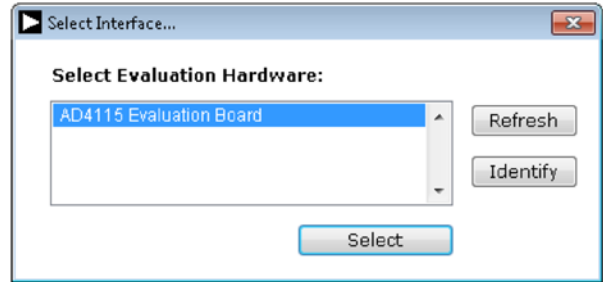
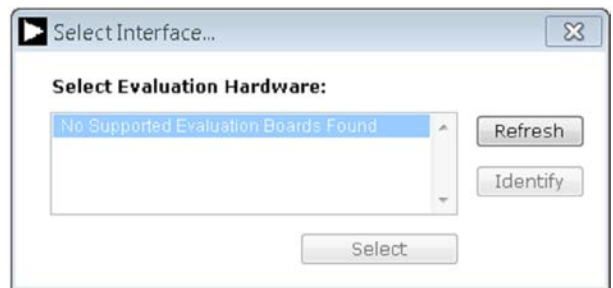

Figure 13. AD4115 Evaluation Board Selection
Figure 14. Evaluation Board Selection, No Board Connected
1. From the **Start** menu, click **Programs > Analog Devices > AD411x Eval+ > AD411x Eval+.exe**. The dialog box shown in Figure 13 appears. Select **AD4115 Evaluation Board** and the main window of the software shown in Figure 16 appears.
2. If the EVAL-AD4115SDZ is not connected to the USB port via the **SDP** when the software is launched, the software displays the dialog box shown in Figure 14. Connect the EVAL-AD4115SDZ to the USB port of the PC, wait a few seconds, then click **Refresh**, and the dialog box shown in Figure 13 then appears.
After selecting **AD4115 Evaluation Board**, shown in Figure 13, the main window of the evaluation software displays, as shown in Figure 16. The **Configuration** tab shows the control buttons and analysis indicators of the **AD411x Eval+** software. The main window of the **AD411x Eval+** software in quick start mode contains four tabs: **Configuration**, **Voltage Waveform**, **Noise Table**, and **Histogram**.